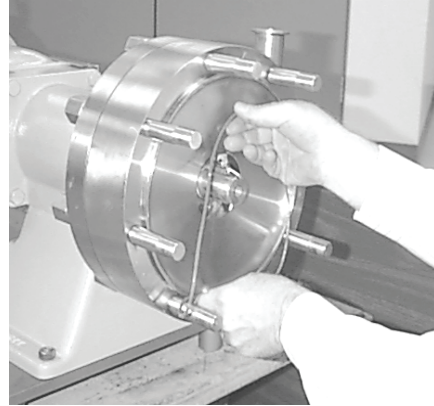

Figure 21
7. Remove O-ring from casing. (Figure 21)